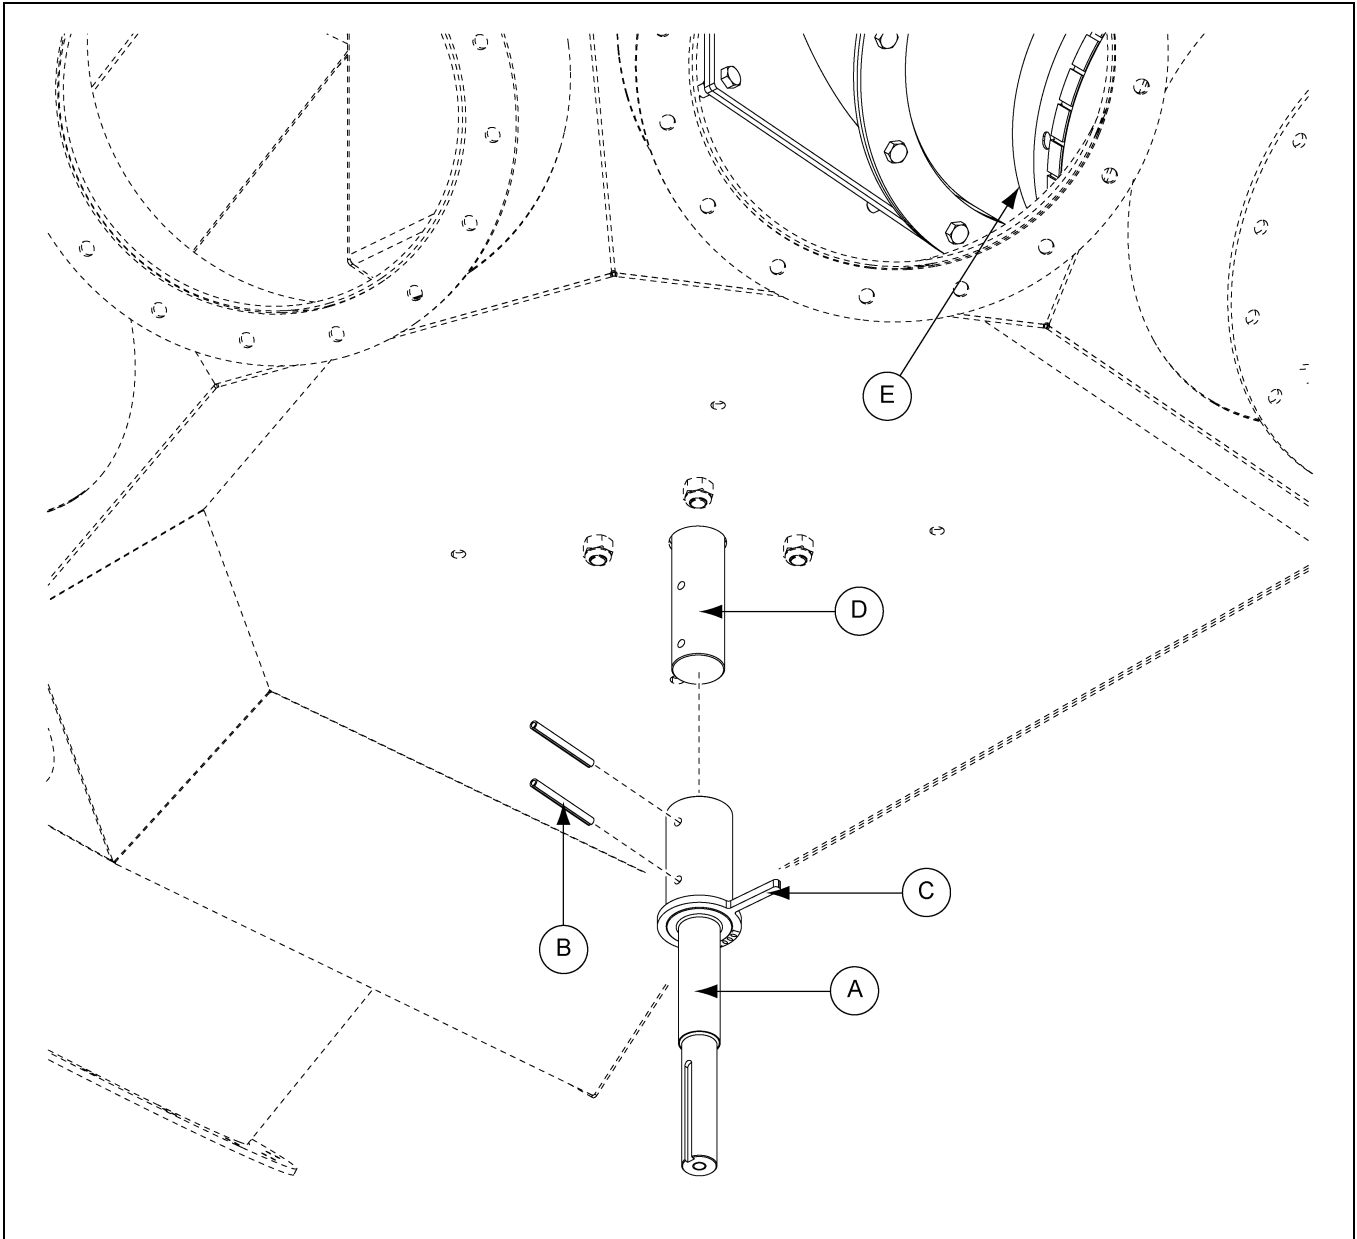

Figure 6A Electronic Distributor Control Shaft
Install the shaft (A) to the distributor shaft (D) using two (2) roll pins (B). **NOTE:** Flag extension (C) should be installed in line with the spout to ensure proper alignment with the sensor. (See Figure 6A.)